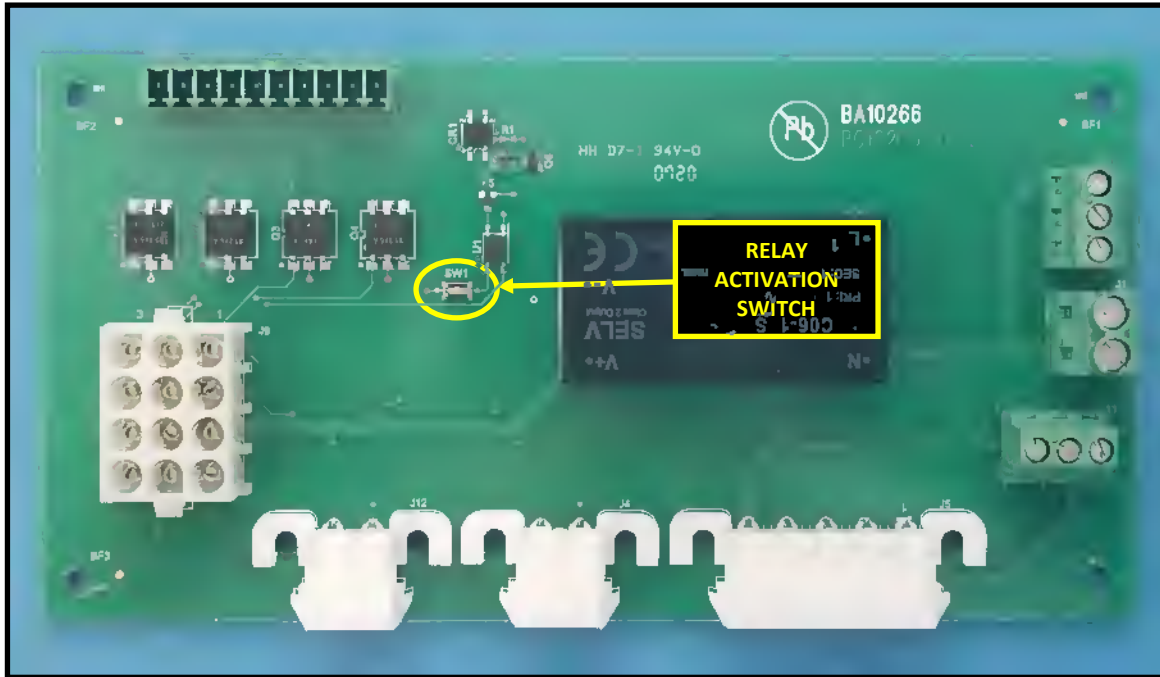

Figure 2
3. Locate relay activation switch on the relay board as shown in Figure 2.
3. Locate relay activation switch on the rear of the control panel as shown in Figure 2.